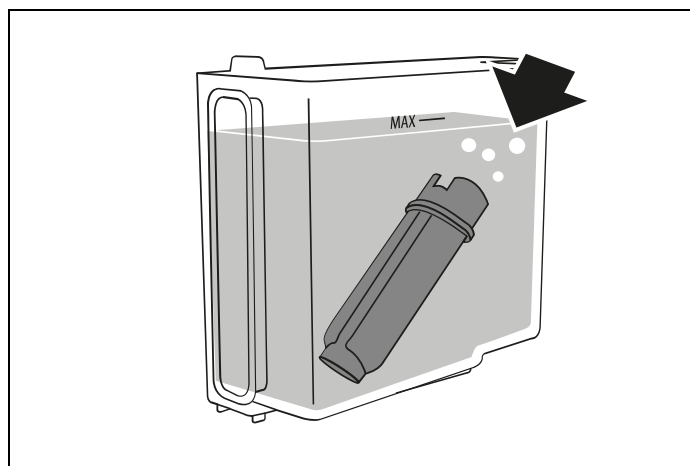

Fig. 62
- 3) **Immerse filter in the water tank letting air bubbles escape** (Fig. 62): Insert the filter in the water tank and immerse it completely for about ten seconds, sloping it and pressing it lightly to enable the air bubbles to escape. Press  **NEXT**;